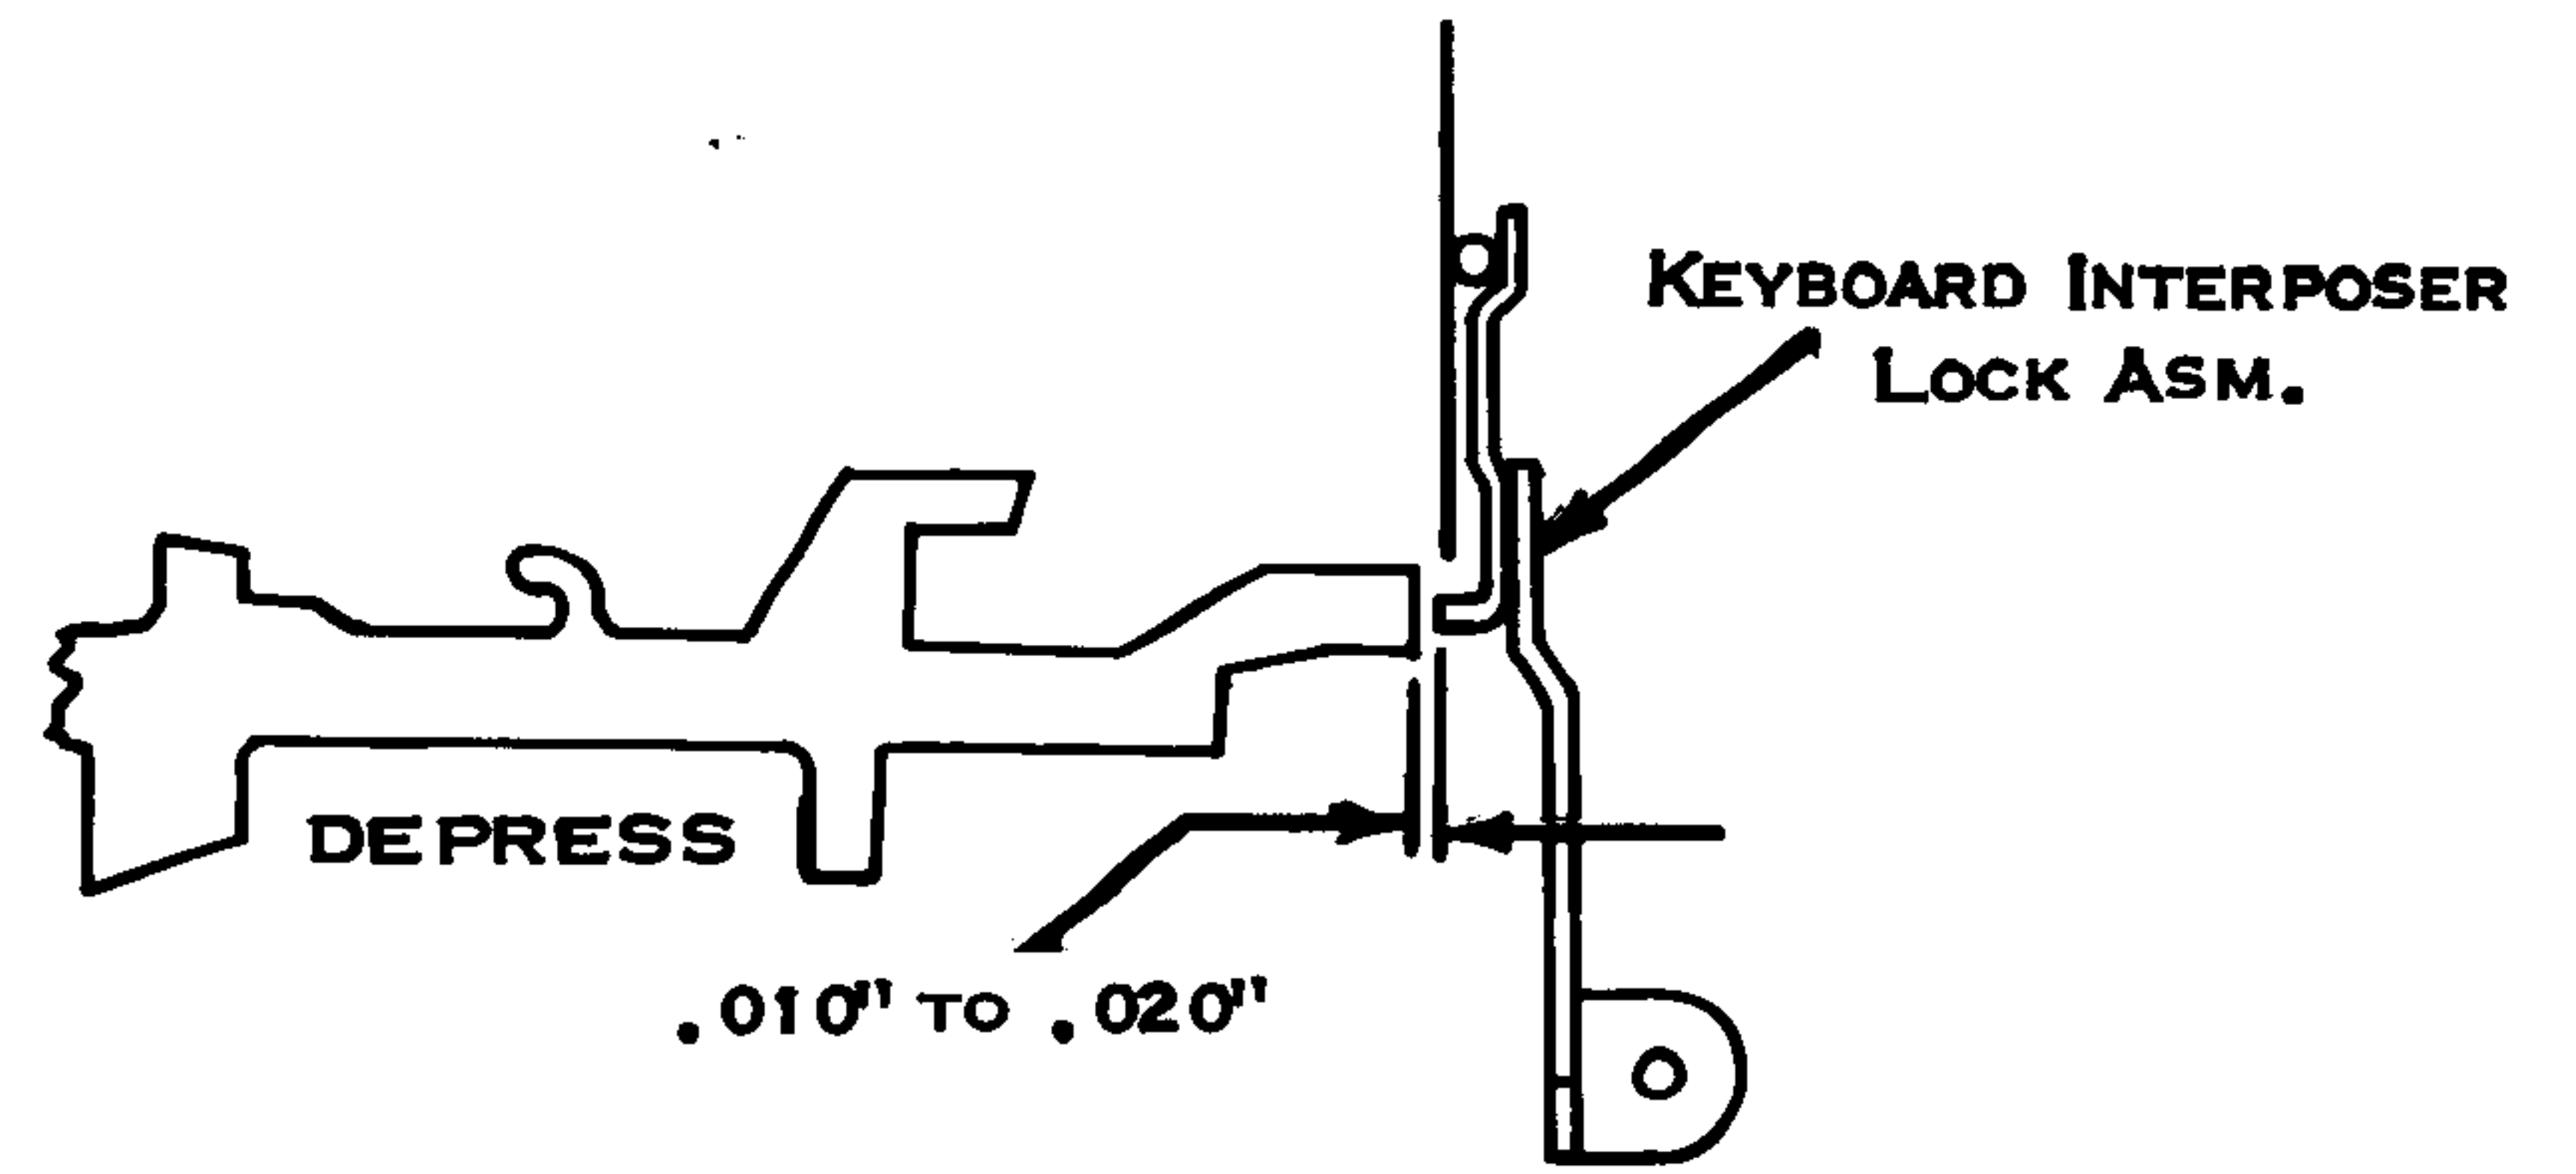

Figure 45. Keyboard Interposer Lock Link
- b. Adjust the keyboard interposer lock link so there is .010" to .020" clearance between the interposer and the interposer lock assembly with everything in the unlocked position (Fig. 45).